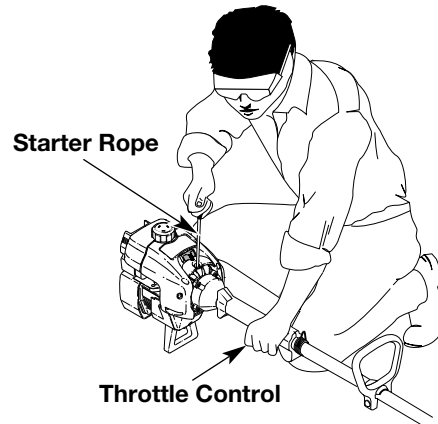

Fig. 16
**WARNING:** Avoid accidental starting. Be in the starting position when pulling the starter rope (Fig. 16). The operator and unit must be in a stable position while starting to avoid serious personal injury.
5. With the unit on the ground, squeeze the throttle control and hold. Pull starter rope briskly (Fig. 16). Continue pulling until the engine sounds as though it wants to run (normally 2 to 5 pulls).
7. Pull starter rope briskly 1 to 3 times to start the engine (Fig. 16).
1. Release your hand from the throttle control (Fig. 16). Allow the engine to cool down by idling.